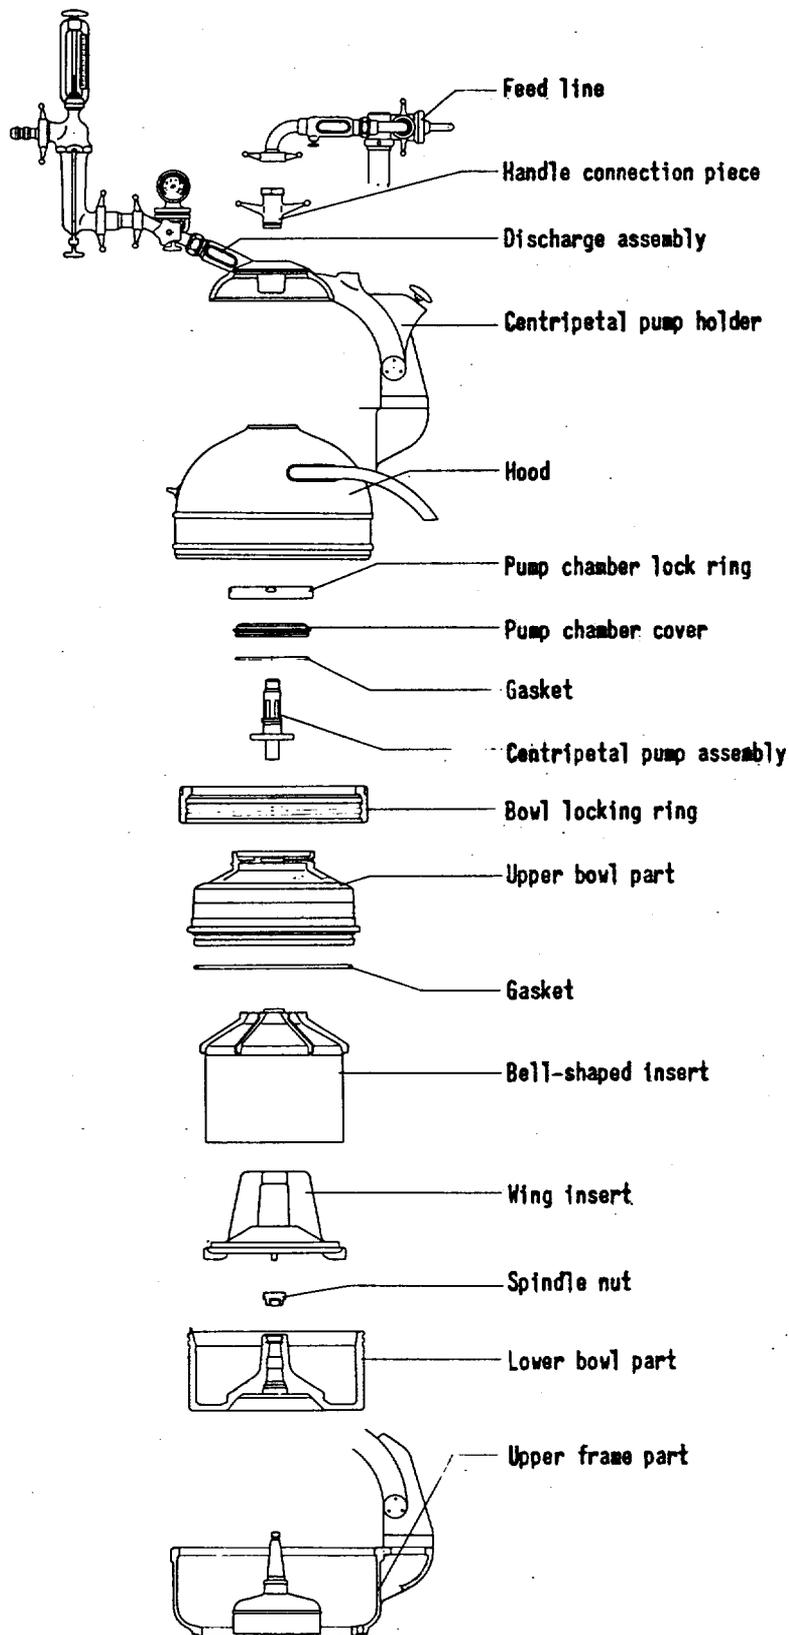

Fig. 2b
4.3 Assembling the Two-Chamber Bowl (Fig.2b)
4.5 Installing the Hood - Assembling the Feed and Discharge Connections (Enclosed Feed, Fig.2b)